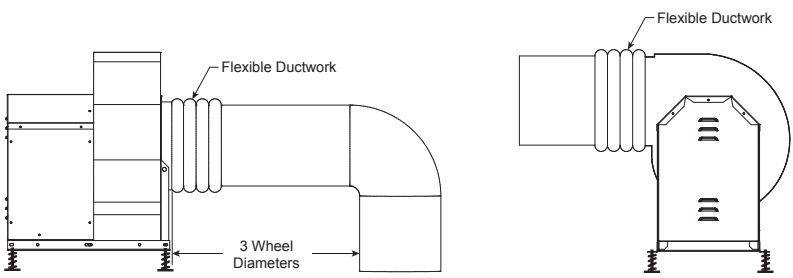

Figure 2
4. Attach inlet duct to the inlet collar of the blower. Refer back to Figure 2 for minimum duct and blower discharge heights.